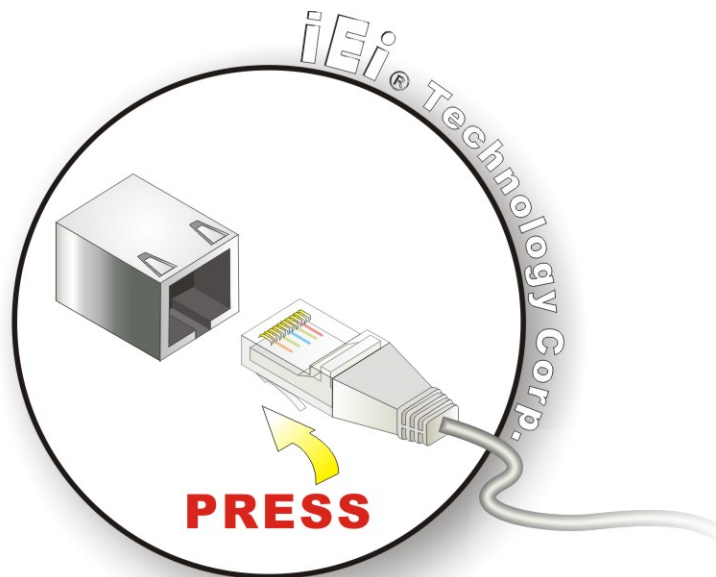

Figure 3-23: LAN Connection
Step 2: Align the connectors. Align the RJ-45 connector on the LAN cable with one of the RJ-45 connectors on the bottom panel of the AFOLUX LX Series. See Figure 3-23.